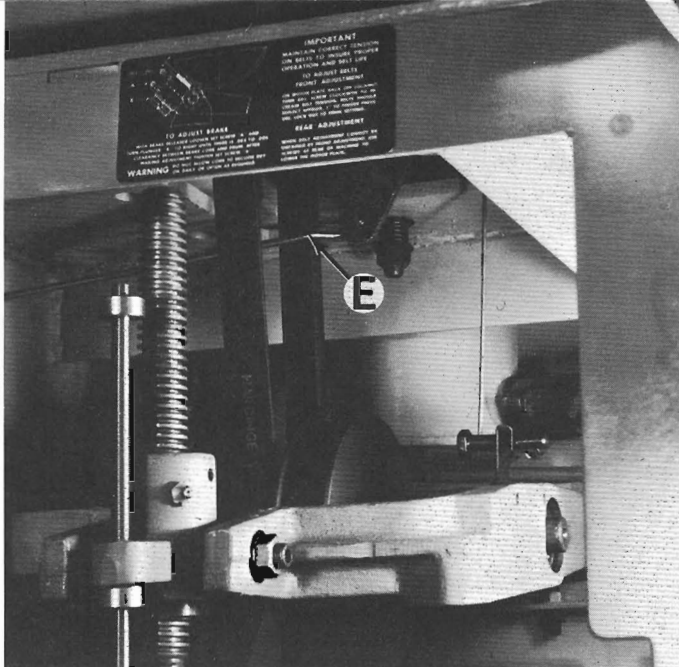
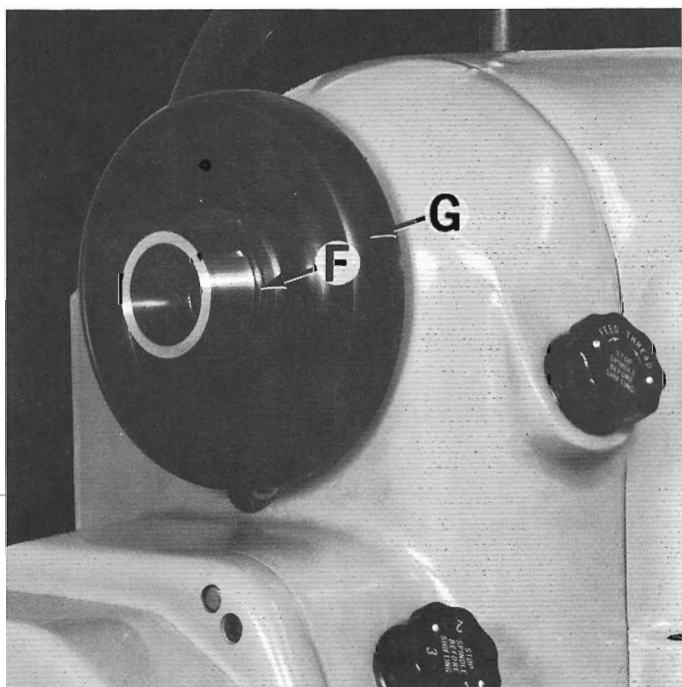

Figure 13 — Speed Change Pullrod
Figure 14 — Spindle Handwheel
- (A). Remove cotter pins from both ends of pull rod "E", Figure 13, which passes through headstock belt. (Pull rod can be used to hook belt over spindle pulley.)
- (B). Remove collet closer and adjusting nut per Page 4.
- (C). Remove snap ring "F", Figure 14, and remove handwheel "G".
2. Remove snap ring "F", Figure 14, and remove handwheel "G".